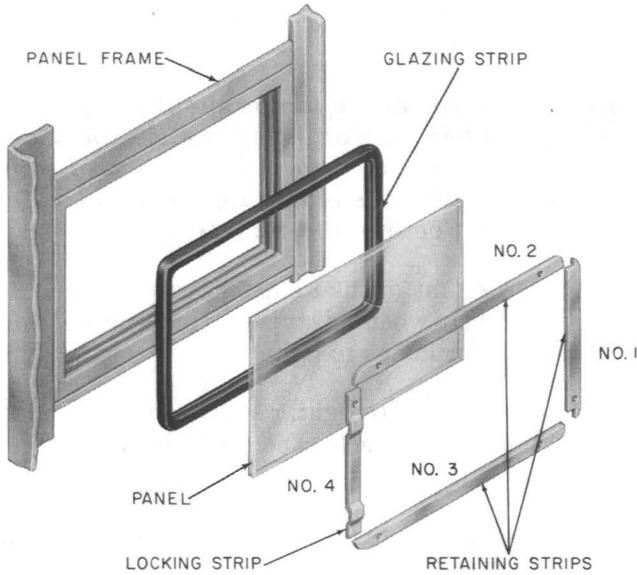

Fig. 21—Assembly of Side or Rear Panels
- 4.20 Booth panels and signs are held in place by four interlocking retaining strips inserted in sequence as shown in Fig. 21. The No. 4 strip is rippled and is held in place by interface friction. Refer to Table E for retaining strips.
- (5) Apply rubber glazing strip to replacement panel.
- (6) Insert panel into frame with the beaded edge of glazing strip on the outside.
- (7) Replace retaining strips in sequence as shown in Fig. 21.